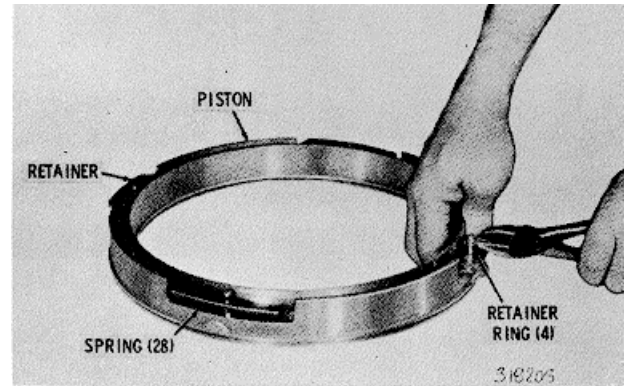

Fig. 6.65. Removing retainer rings from first clutch piston
(3) Turn the piston assembly over, and cut the our retainer rings while depressing the retainer (Fig. 6-65).